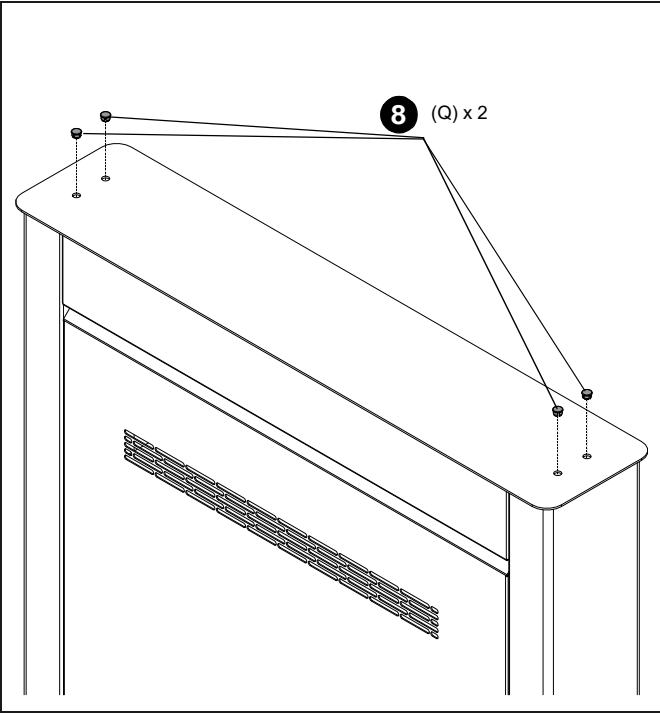

Figure 21
- 8. Insert four plugs (Q) into the holes in the top panel of the kiosk frame. (See Figure 21)